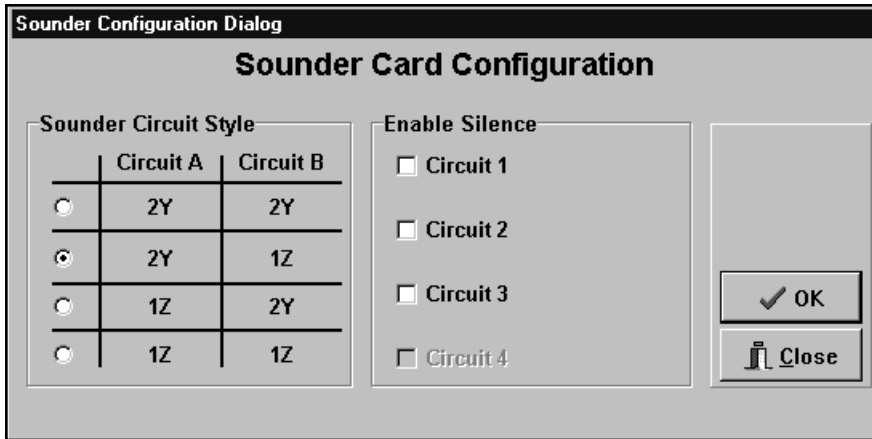

FIGURE V-14
2. Click on the Edit button. The Sounder Card Configuration screen is displayed. See Figure V-14.